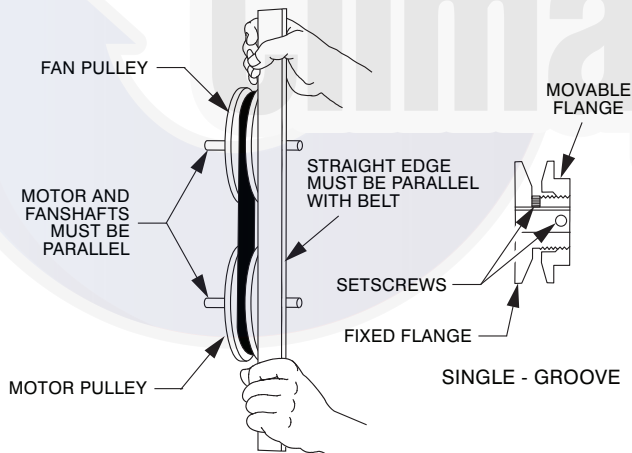

Fig. 7 - Supply-Fan Pulley Adjustment
3. Loosen movable pulley flange setscrew. See Fig. 7.
The motor pulley is an adjustable-pitch type that allows a servicer to implement changes in the fan wheel speed to match as-installed ductwork systems. The pulley consists of a fixed flange side that faces the motor (secured to the motor shaft) and a movable flange side that can be rotated around the fixed flange side that increases or reduces the pitch diameter of this driver pulley. See Fig. 7.
23. Align the motor pulley and blower wheel pulley using a straight edge. See Fig. 7.